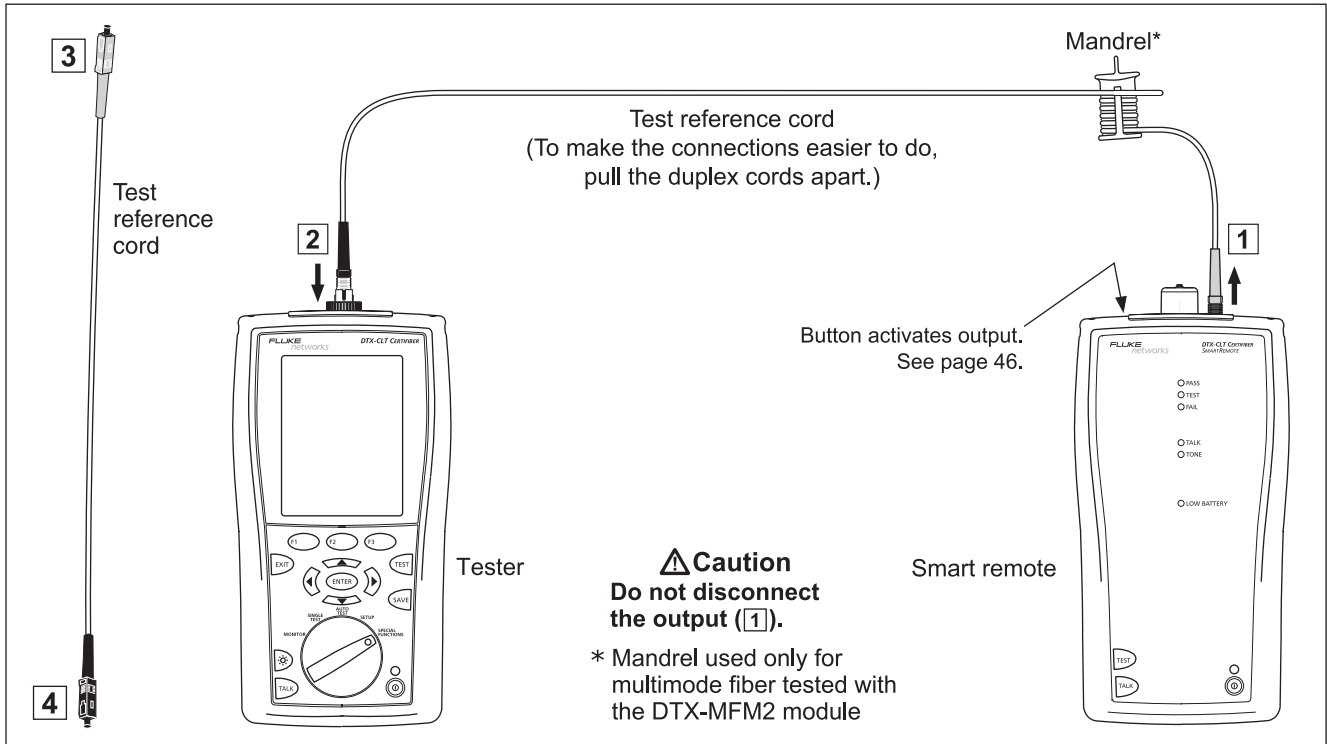

Figure 21. Far End Source Mode Reference Connections (1 Jumper Method)
- 5 The **Set Reference** screen shows connections for the test method you selected. Figure 21 shows connections for the 1 Jumper method. Clean and inspect the connectors on the tester, test reference cord, and source, connect the tester and source; then press .